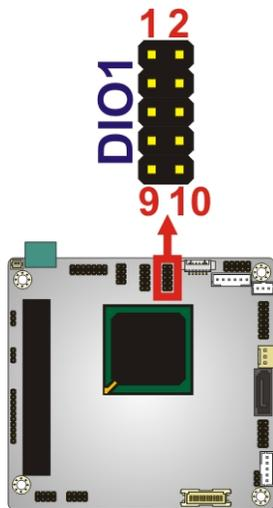

Figure 3-6: Digital I/O Connector Locations
- CN Location:** See Figure 3-6